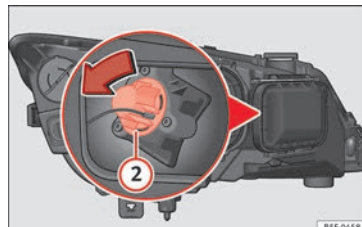

Fig. 107 Turn signal bulb.
- Turn the bulb holder »» Fig. 107 ② anti-clockwise and pull.